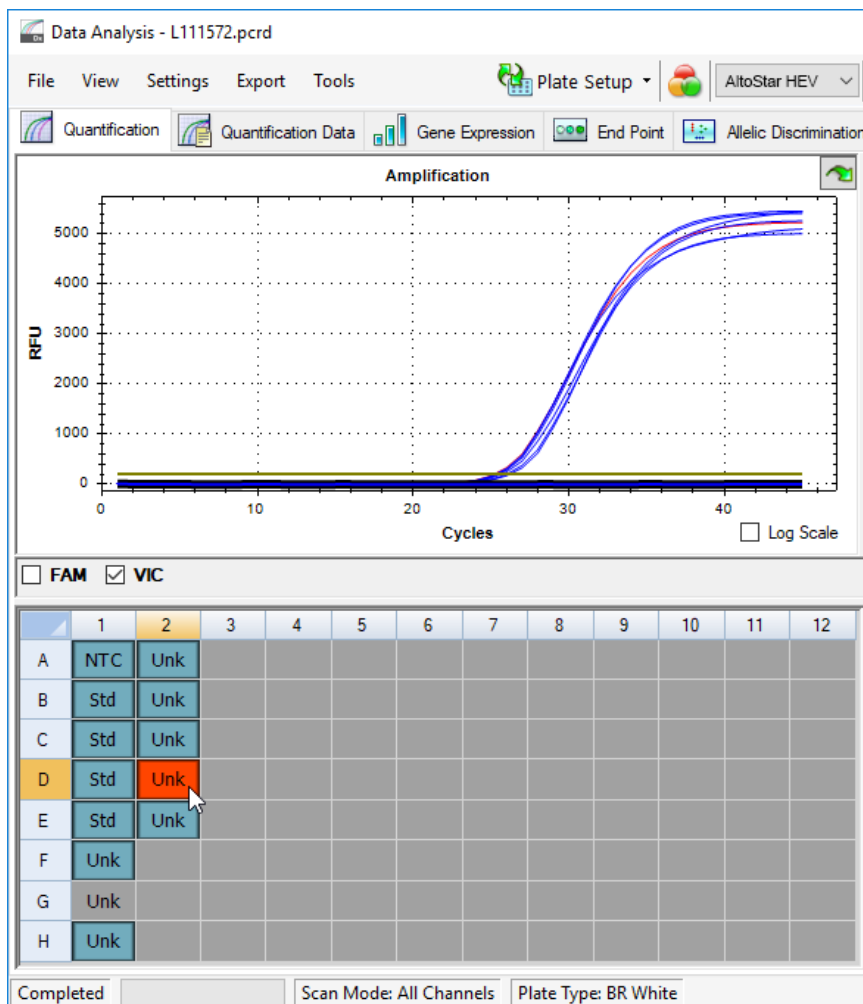

Figure 11: Data Analysis window: invalid well
- Click each well containing invalid data according to chapters 7.6.8.2 Validity of a diagnostic PCR run (qualitative) to 7.6.8.4 Validity of results for a sample with the right mouse button and select **Well... → Exclude from Analysis** (see figures 11 and 12).